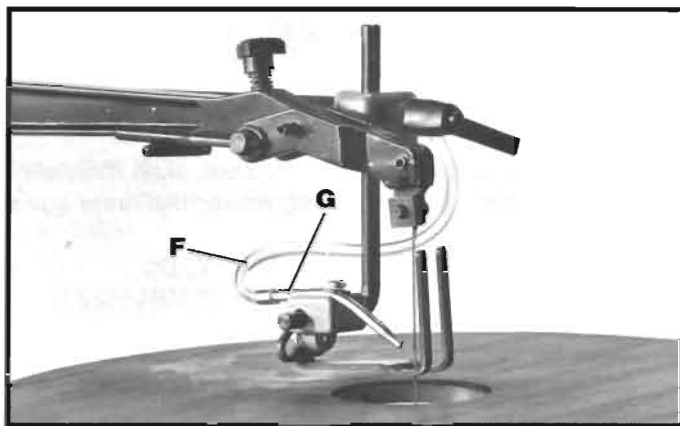

Fig. 5
3. Connect air hose (F) Fig. 5, to end of blower tube (G) as shown.